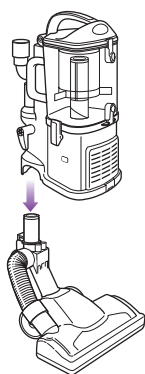

Fig. 8
- 2 Align the tube of the floor nozzle with the tube on the detachable canister and lower until you hear the two pieces click into place. **(Fig. 8)**